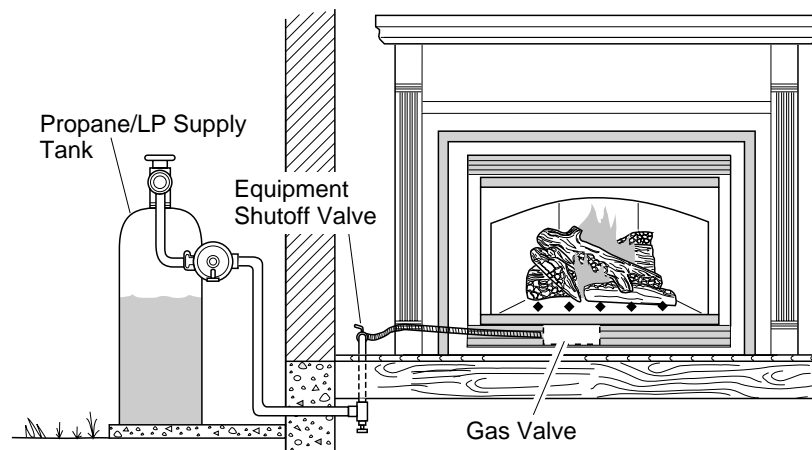
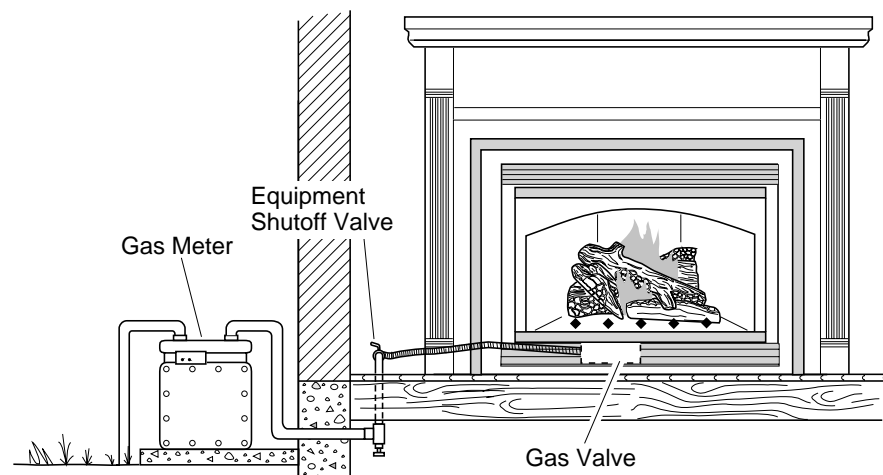

Figure 38 - Checking Gas Joints for Propane/LP Gas Fireplace
Figure 39 - Checking Gas Joints for Natural Gas Fireplace
3. Check all joints from propane/LP supply tank or gas meter to equipment shutoff valve (see Figure 38 for propane/LP or Figure 39 for natural). Apply commercial leak test solution to all gas joints. Bubbles forming show a leak. Correct all leaks at once.
4. Check all joints from equipment shutoff valve to thermostat gas valve (see Figure 38 for propane/LP or Figure 39 for natural). Apply commercial leak test solution to all gas joints. Bubbles forming show a leak. Correct all leaks at once.